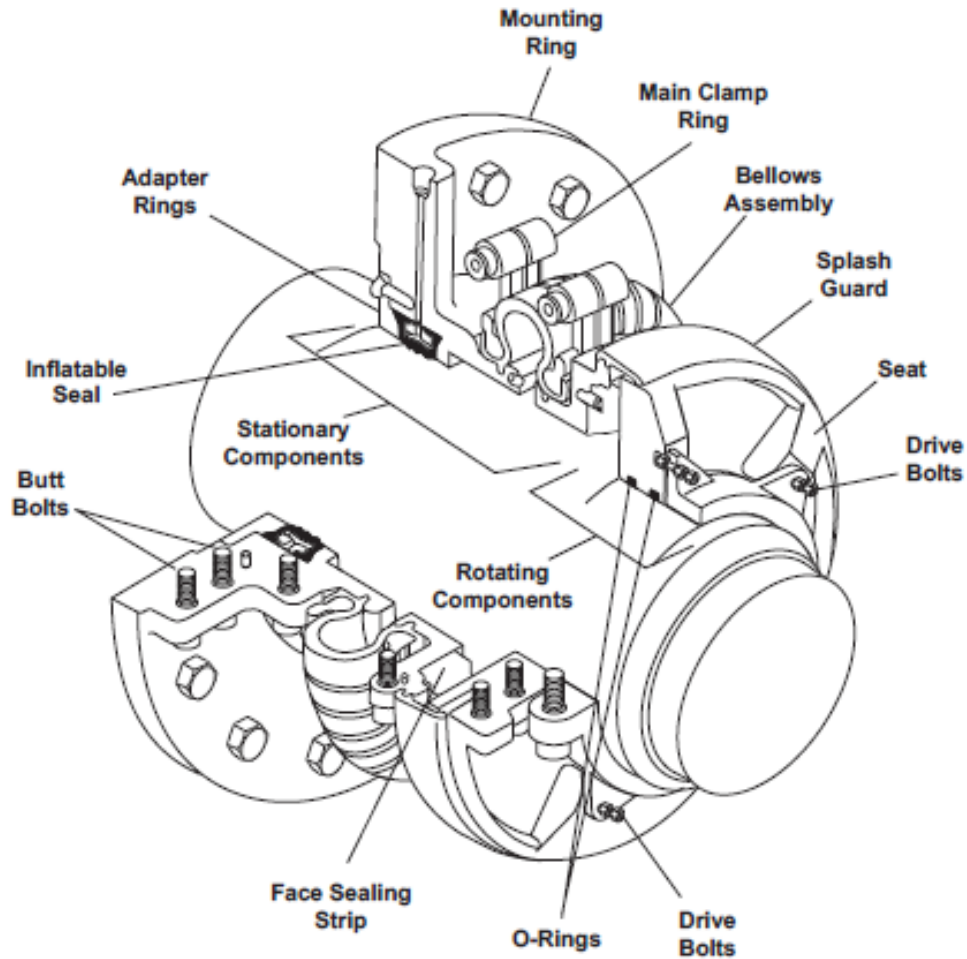

Figure 551-88L-2062_03
b. Propeller shaft stuffing box, (refer to Figure 551-88L-2062_04).
(1) Inspect shaft packing gland for excess leakage.
(2) Adjust gland with unit running.
(3) Check gland for excess heat by placing hand on gland after adjustment.
(4) Ensure slot mounting plates are installed.
(5) Check flex hose for proper installation and deterioration.